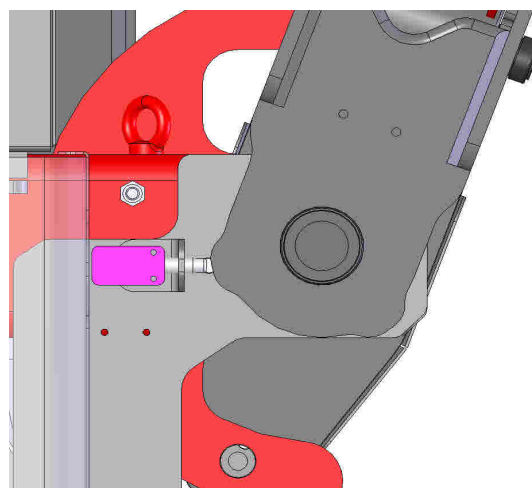

Fig. 5.14
- **Narrow / wide stabilizer position limit switch (Fig. 5.14)**